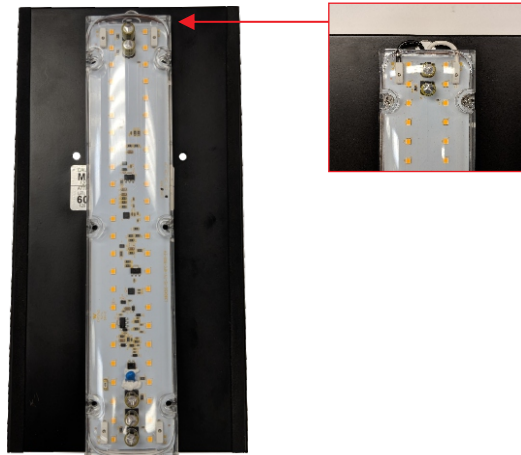

Figure 2
2. Route the input wires of LED Engine (A) into the wire hole of the luminaire back plate and place the LED Engine (A) onto the luminaire back plate as shown on Figure 2.